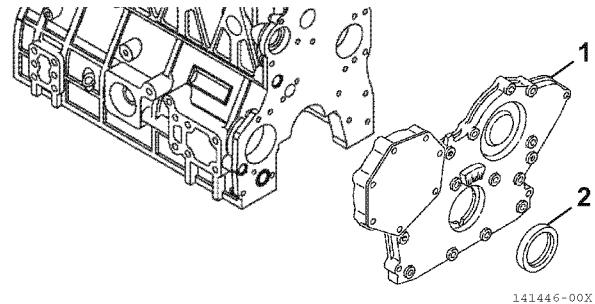

Figure 6-71
1. Remove the seal (2, **Figure 6-71**) from the cover (1, **Figure 6-71**).
2. Apply a continuous bead of ThreeBond Liquid Gasket No. 1207F, YANMAR Part No. 977770-1207F to the outside diameter of a new oil seal (2, **Figure 6-71**), and install in the gear case cover. Apply lithium grease to the lip of the seal.